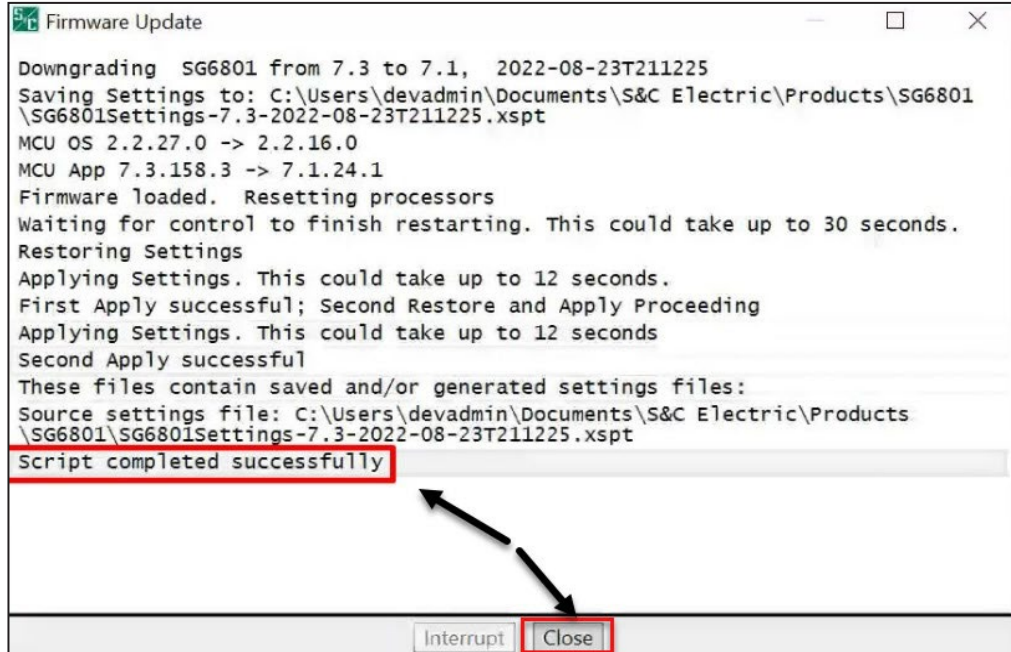

Figure 50. The “Script completed successfully” message.
STEP 21. When “Script completed successfully” is indicated in the Firmware Update dialog box, click on the **Close** button. See Figure 50.